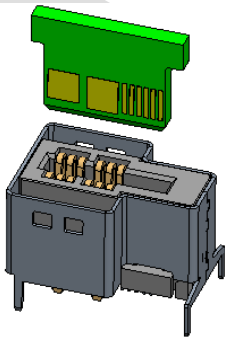

Figure 4-13 21A Power AIC Application
1. A single add-in card (AIC) can plug into the Vertical 21A Power connector as shown in Figure 4-13.